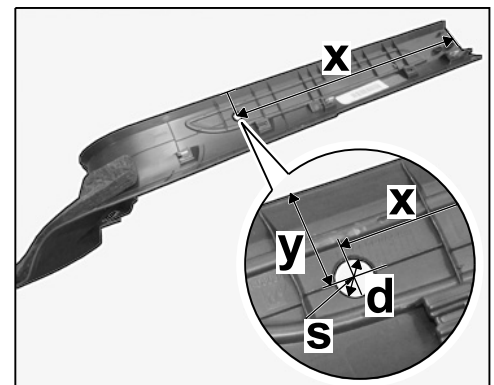

Figure 21
3.2.1 Mark point of intersection \Rightarrow *Figure 21-S-* of dimensions x and y on the inner door sill trim.